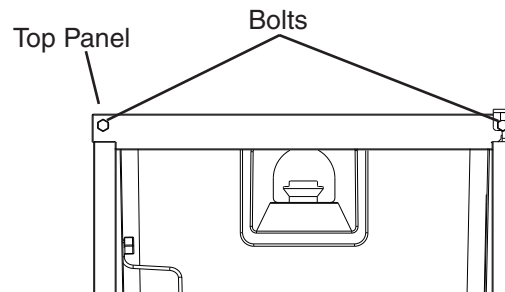

Fig. 2
- 2) Remove the 2 bolts securing the top panel, then lift it off. See Fig. 2.